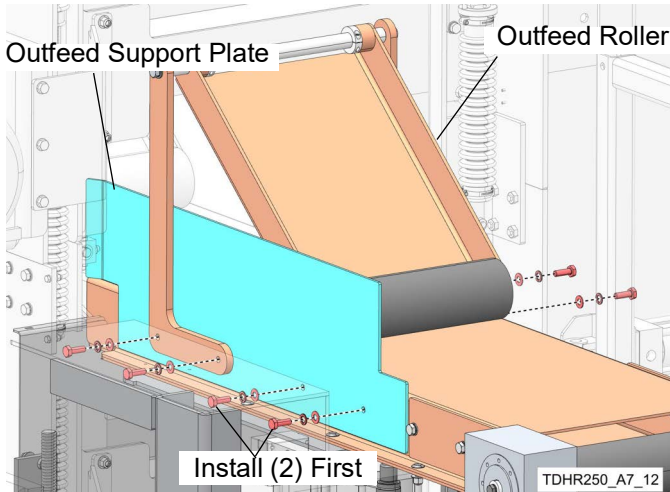

FIG. 3-2
1. Slide outfeed support plate into place on motor side of conveyor. See FIG. 3-2
2. Loosely install plate with (2) M10 1.5x30 HH bolts, (2) 10mm split lock washers, and (2) M10 flat washers.
3. Place outfeed hold down roller into place and fasten with with (4) M10 1.5x30 HH bolts, (4) 10mm split lock washers, and (4) M10 flat washers.
- Tighten all (6) bolts.